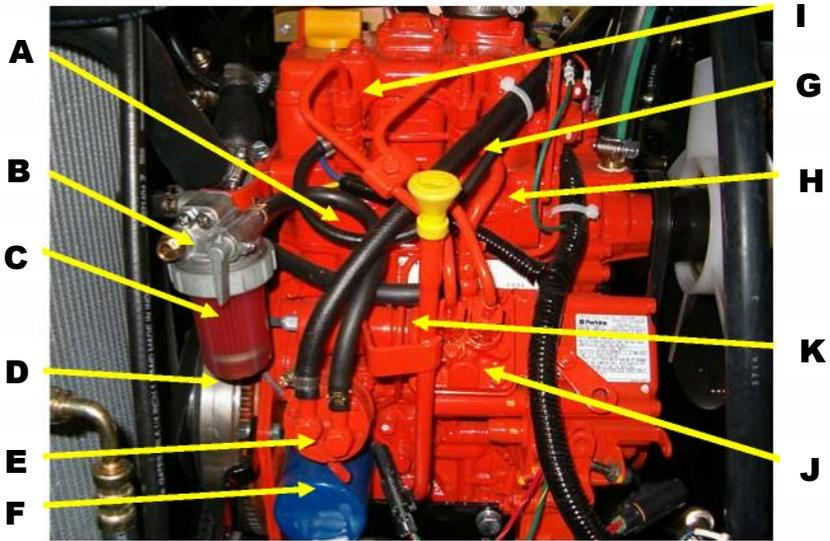

Figure 18 – Fuel System – Other Components
2. Using a Phillips screwdriver, loosen the right-hand bleed screw located in the filter head. (Location B, refer to Figure 18).
3. Prime the system using the manual lift pump lever located on the lift pump. Since the pump is mechanical and has a diaphragm it may be necessary to manually turn the engine by hand so that the engine camshaft allows full stroke on the lift pump. (Location F, refer to Figure 18).
5. Tighten the bleed screw in the fuel filter head. (Location B, refer to Figure 18).